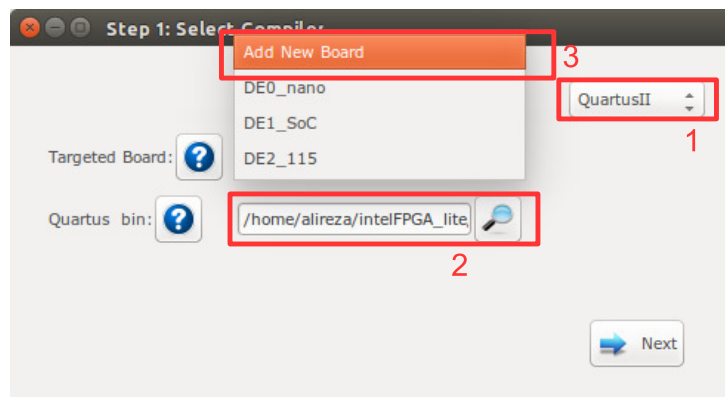

Figure 5.24: Select QuartusII as compiler.
1. Press  Compile RTL button in right down corner. This should open "select compiler window" as shown in Figure 5.24. Select QuartusII as compiler tool.